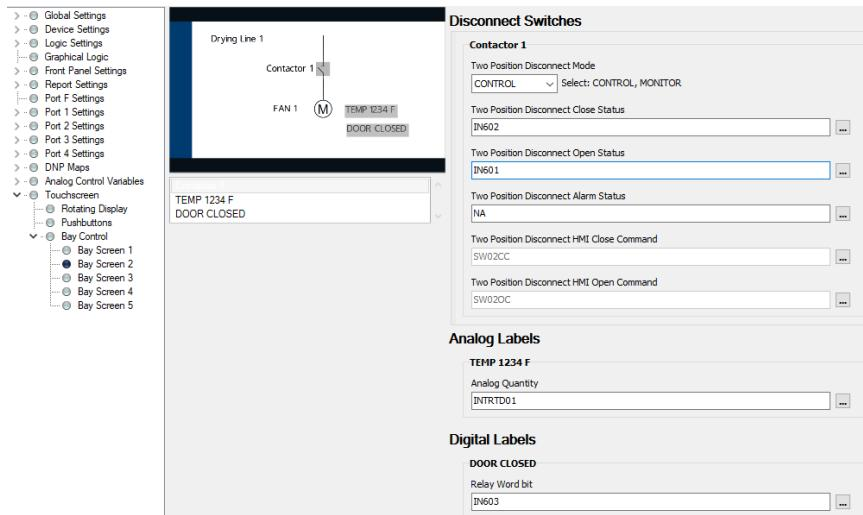

Figure 8.82 Configure Labels in QuickSet
Step 1. Select the Bay Screen settings under the Bay Control class (see *Figure 8.82*).
In this example the two-position disconnect Open position status is connected to IN601 and the close status is connected to IN402. The open contact is OUT401 and the close contact is OUT602. The door switch status is connected to IN603. The Temperature sensor is RTD 1. Configure the settings shown in *Figure 8.82* as follows: